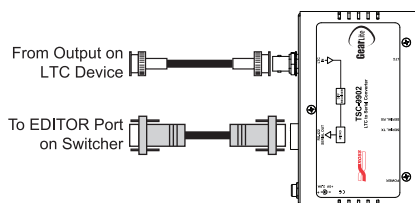

Figure 7 TSC-9902 Cabling — LTC Device to CrossOver
- Connect and secure the **9-Pin, Male** end of the **Interface Cable** to the **RS-422 Serial** port on the TSC-9902 (**Figure 7**).